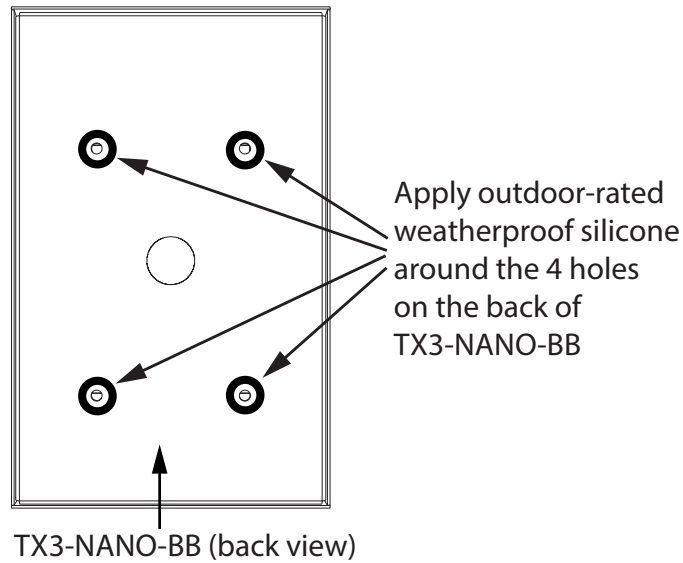

Figure 2. Apply silicone around the holes on the back of the mounting box
2. To prevent water from flowing into the TX3-NANO-BB mounting box, apply outdoor-rated weatherproof silicone around the 4 holes on the back of the mounting box (the side against the wall) as shown in Figure 2.